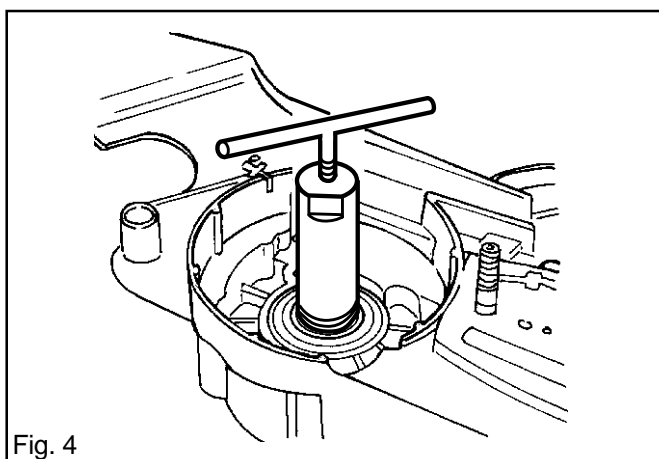

Fig. 4
7. If required remove the seals. Use tools 502 50 55-01 and 504 91 40-01. See fig. 4.